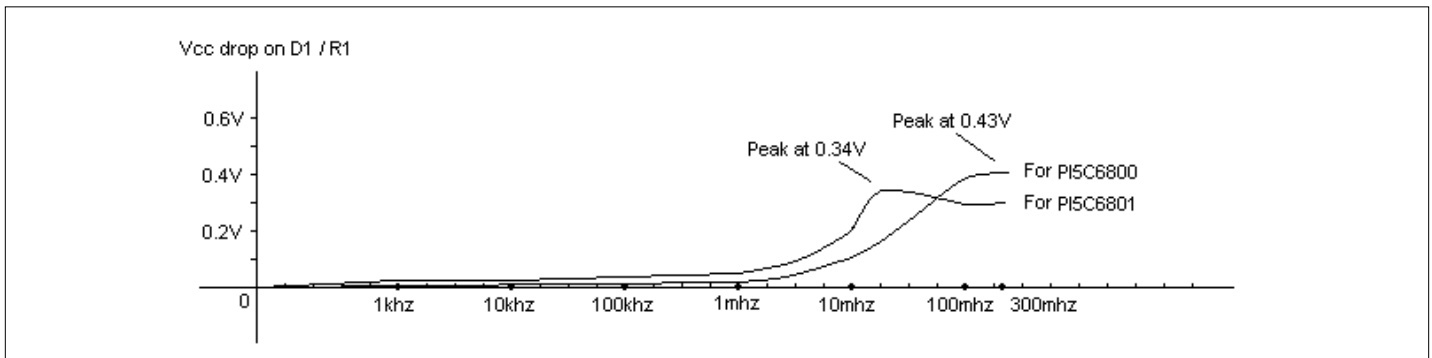

Figure 4. The Voltage Drop on D1 / R1 versus Frequency
- Figure 4. and table-1 are the curves and the data to explain the relation between the V_{CC} drop on $D1/R1$ versus the switching frequency at pin “/on”.